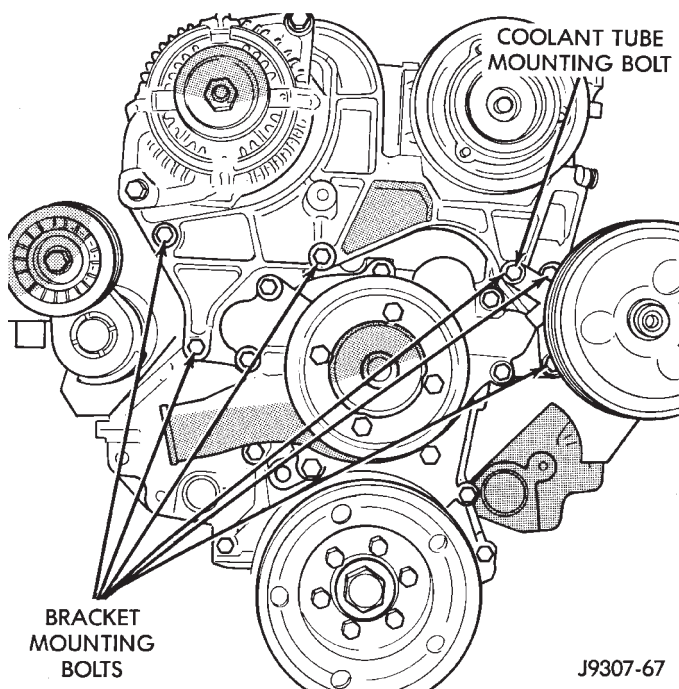
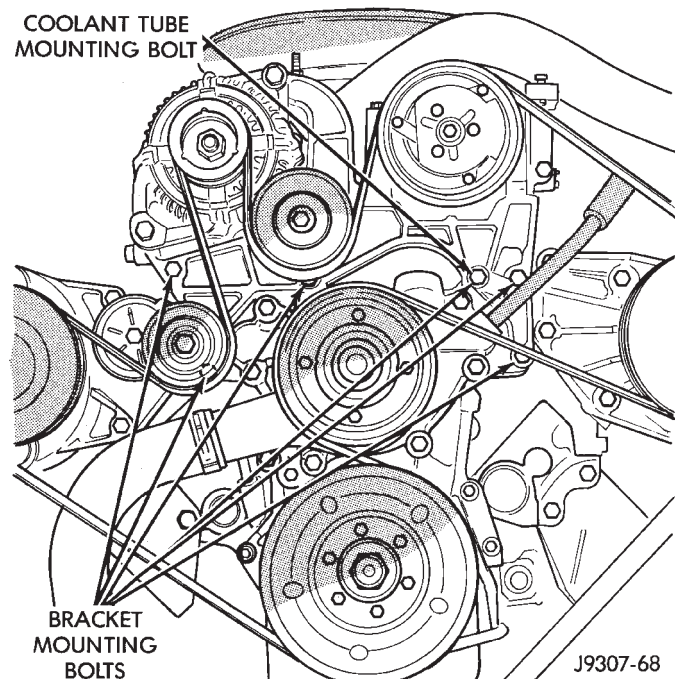

Fig. 64 Bracket Bolts—3.9L V-6 or 5.2/5.9L V-8 LDC-Gas Engines
Fig. 65 Bracket Bolts—5.9L HDC-Gas Engine
(15) Remove remaining bracket-to-engine bolts (Fig. 64) (Fig. 65).
(16) Lift and position generator and A/C compressor (along with their common mounting bracket) to gain access to bypass hose. A block of wood may be used to hold assembly in position.
(17) Loosen and position both hose clamps to the center of bypass hose. A special clamp tool must be used to remove the constant tension clamps. Remove hose from vehicle.
(4) Install generator-A/C mounting bracket assembly to engine. Tighten bolt number 1 (Fig. 59) to 41 N·m (30 ft. lbs.) torque. Tighten bolt number 2 (Fig. 59) to 28 N·m (20 ft. lbs.) torque. Tighten bracket mounting bolts (Fig. 64) (Fig. 65) to 40 N·m (30 ft. lbs.) torque.